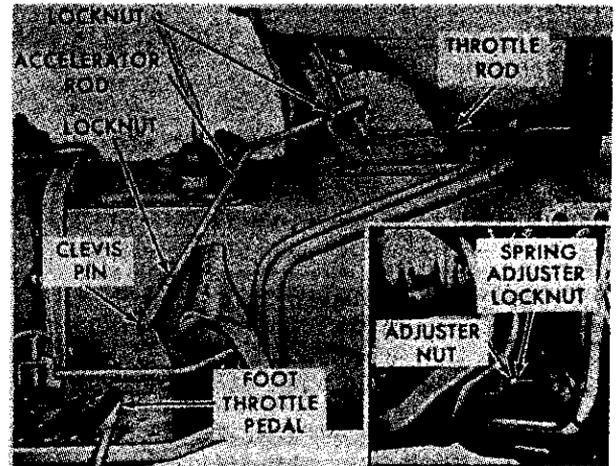

Fig. 153—View of foot operated throttle and related linkage. Refer to Fig. 142 for exploded view. Refer to text for adjustment procedure.
**166. ACCELERATOR (FOOT) PEDAL ADJUSTMENT.** To adjust the foot operated throttle linkage on models so equipped, first disconnect the accelerator rod (see Fig. 153) from hand operated throttle lever arm and adjust the throttle linkage as outlined in paragraph 164 or 165. Then, adjust the length of the accelerator rod as follows: Move the hand throttle lever to wide open position and hold the foot pedal down against the step plate (foot rest). Adjust the length of the accelerator rod so that it can be reconnected with hand and foot operated throttle controls in this position. Tighten the accelerator rod adjustment lock nuts after reconnecting rod, then recheck both high no-load and slow idle speeds. Readjust linkage if necessary, then reinstall the cover on right side of steering gear. Note: If foot pedal will not return throttle to slow idle position when released, tighten the return spring (see inset in Fig. 153).